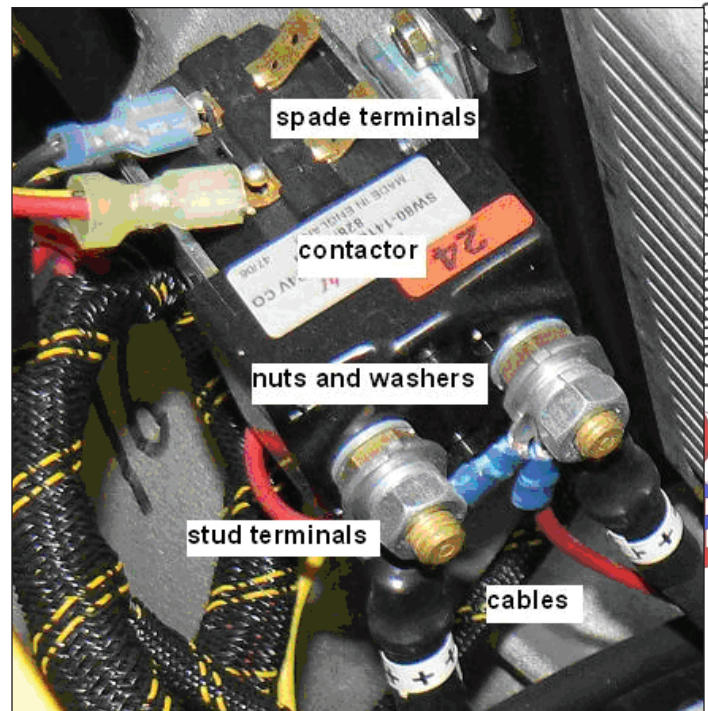

Figure 10-24. Contactor Connections
1. Label contactor cables with terminal identification. Refer to schematic for correct wire numbers. Figure 10-24.
2. Remove two nuts, washers and cables from stud terminals. See Figure 10-24.
2. Secure contactor with two bolts, nuts and washers (Figure 10-24).